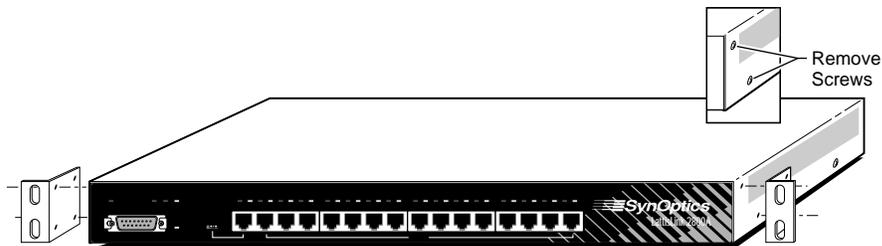

Figure 2-5. Attaching Brackets for Rack Installation
- a. On each side of the concentrator, use a #1 Phillips screwdriver to remove the screws at the front corner (see Figure 2-5).
- b. Hold a mounting bracket against each side of the concentrator, as shown in Figure 2-5, and align the counter-sunk screw holes in the bracket with the bracket mounting holes in the concentrator.
- c. Insert two #4-40 x 5/16" flat-head screws through each bracket and into the bracket mounting holes in the concentrator cabinet (see Figure 2-5). Using a #1 Phillips screwdriver, tighten the screws to secure each bracket.